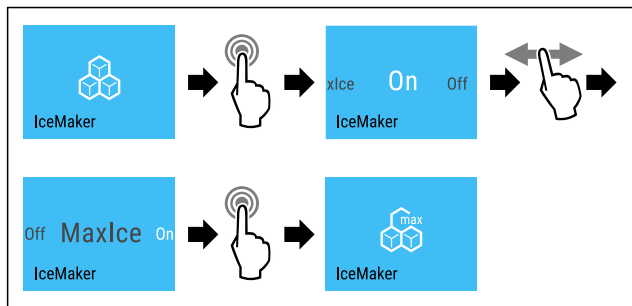

Fig. 18
- ▶ Complete the steps (see Fig. 18).